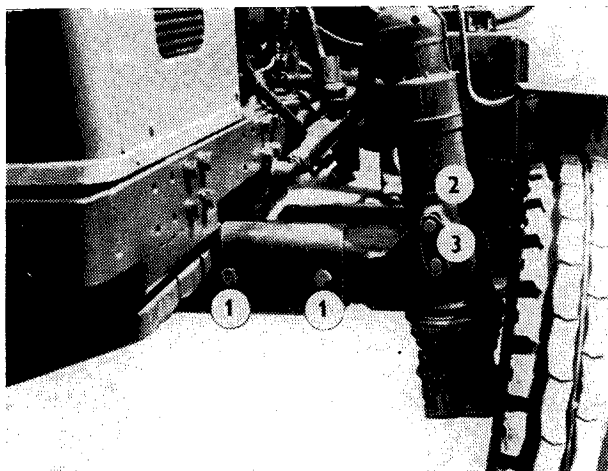

Fig. 35
Sprung extension (adapter) modification (Fig. 35/2)
1. Unscrew bolts of extension body cover lids and remove the lids (Fig. 35/3).
2. Unscrew front axle extension bolt nuts and remove the bolts (Fig. 35/1).